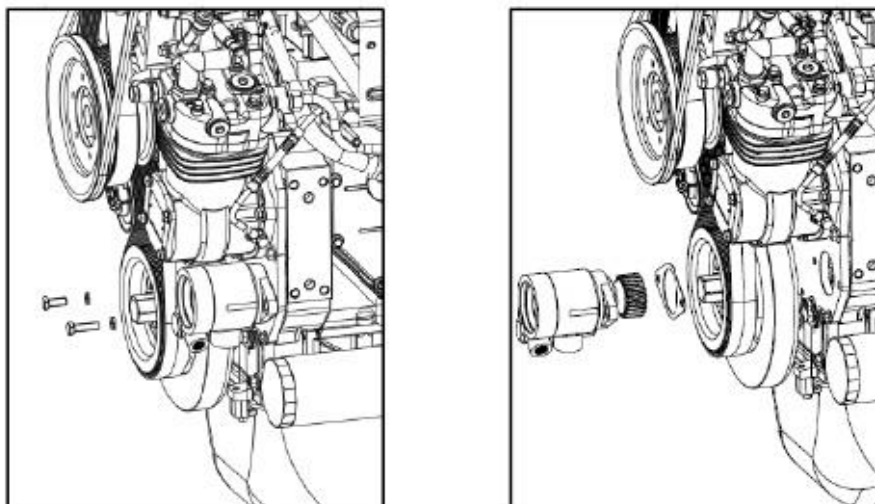

Fig. 4-76 Disassembly of steering pump
- (1) Remove steering pump oil inlet and outlet pipes.
- (2) Remove steering pump fastening bolts and spring washers, take down the pump and sealing gasket. As shown in Fig. 4-76.